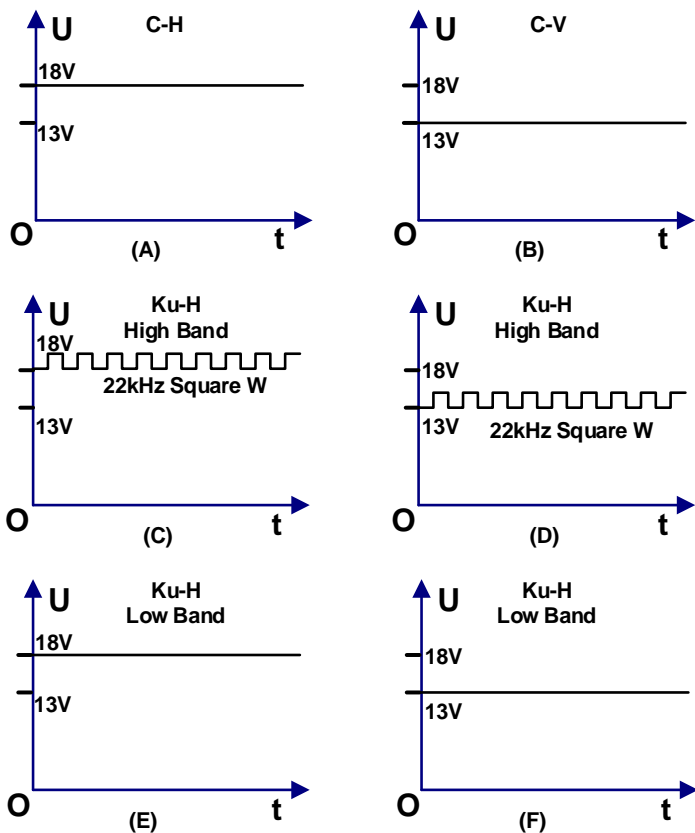

Figure 14-55 Satellite IF signal switch work principle
If user want to receive C band horizontal polarization signal, only use 18V signal, as the Figure 14-55(A) show. If user want to receive C band vertical polarization signal, only use 13V signal, as the Figure 14-55(B) show.
If user want to receive Ku band high band horizontal polarization signal, the 22kHz square-wave signal is superimposed on 18V signal, the 0/22kHz status is "On", the frequency is 22kHz, as the Figure 14-55(C) show. If user want to receive Ku band high band vertical polarization signal, the 22kHz square-wave signal is superimposed on 13V signal, the 0/22kHz status is "On", the frequency is 22kHz, as the Figure 14-55(D) show.
status is "Off", the frequency is 0kHz, as the Figure 14-55(E) show. If user want to receive Ku band low band vertical polarization signal, the 22kHz square-wave signal is not superimposed on 13V signal, the 0/22kHz status is "Off", the frequency is 0kHz, as the Figure 14-55(F) show.